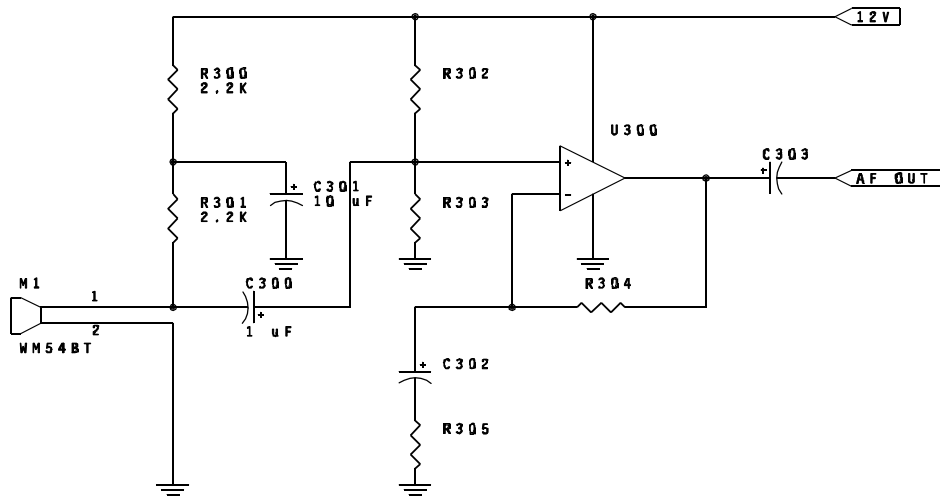

Figure 2 - Microphone Amplifier
6. A complete communications system uses a microphone instead of a signal generator as the information source. Construct the circuit of figure 2 on the next page and couple it to the AM modulator.